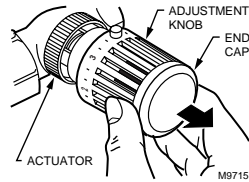

Fig. 7. Lift end cap off adjustment knob.
1. Remove the end cap from the adjustment knob. See Fig. 7. For the T100A,F Controllers, go to step 3.